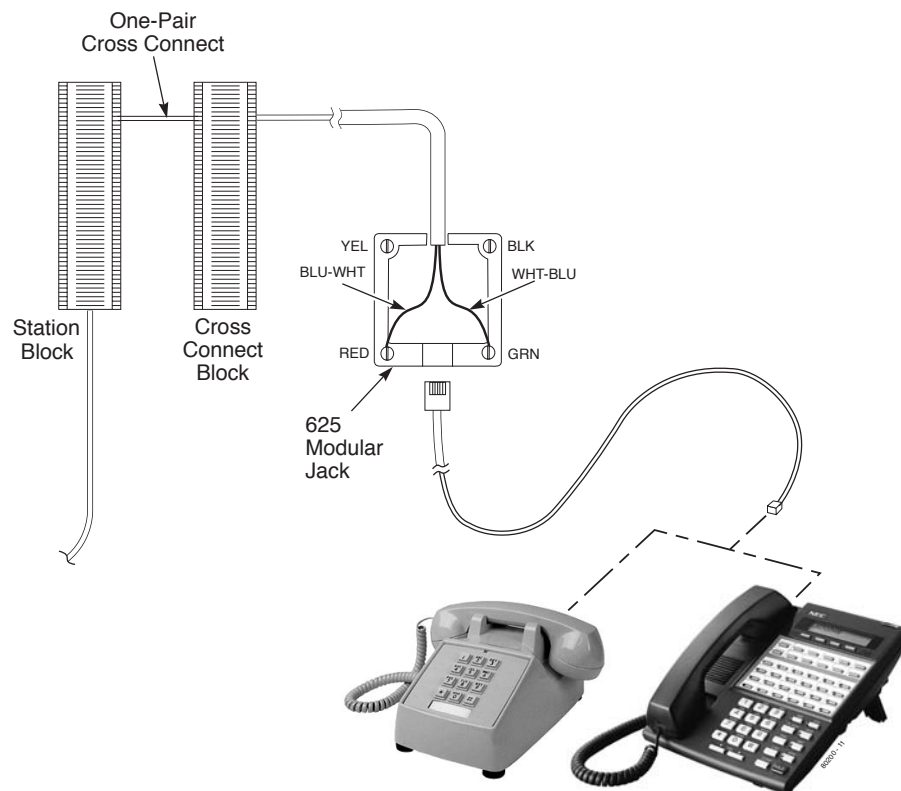

Figure 3-2: Connecting Extensions
**To connect extensions** (Figure 3-2):